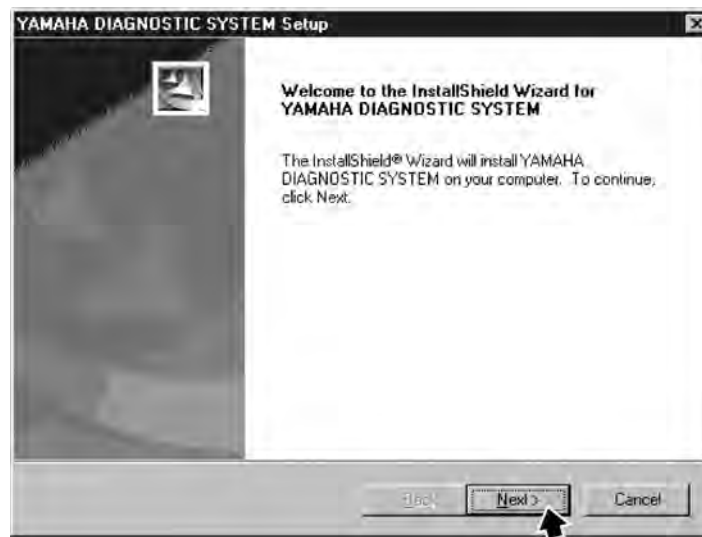

Fig. 3
4. Click the **Next** button to start the installation process. (Fig. 3)
- To quit the installation, click the **Cancel** button. The following dialog box appears. (See fig. 3.)